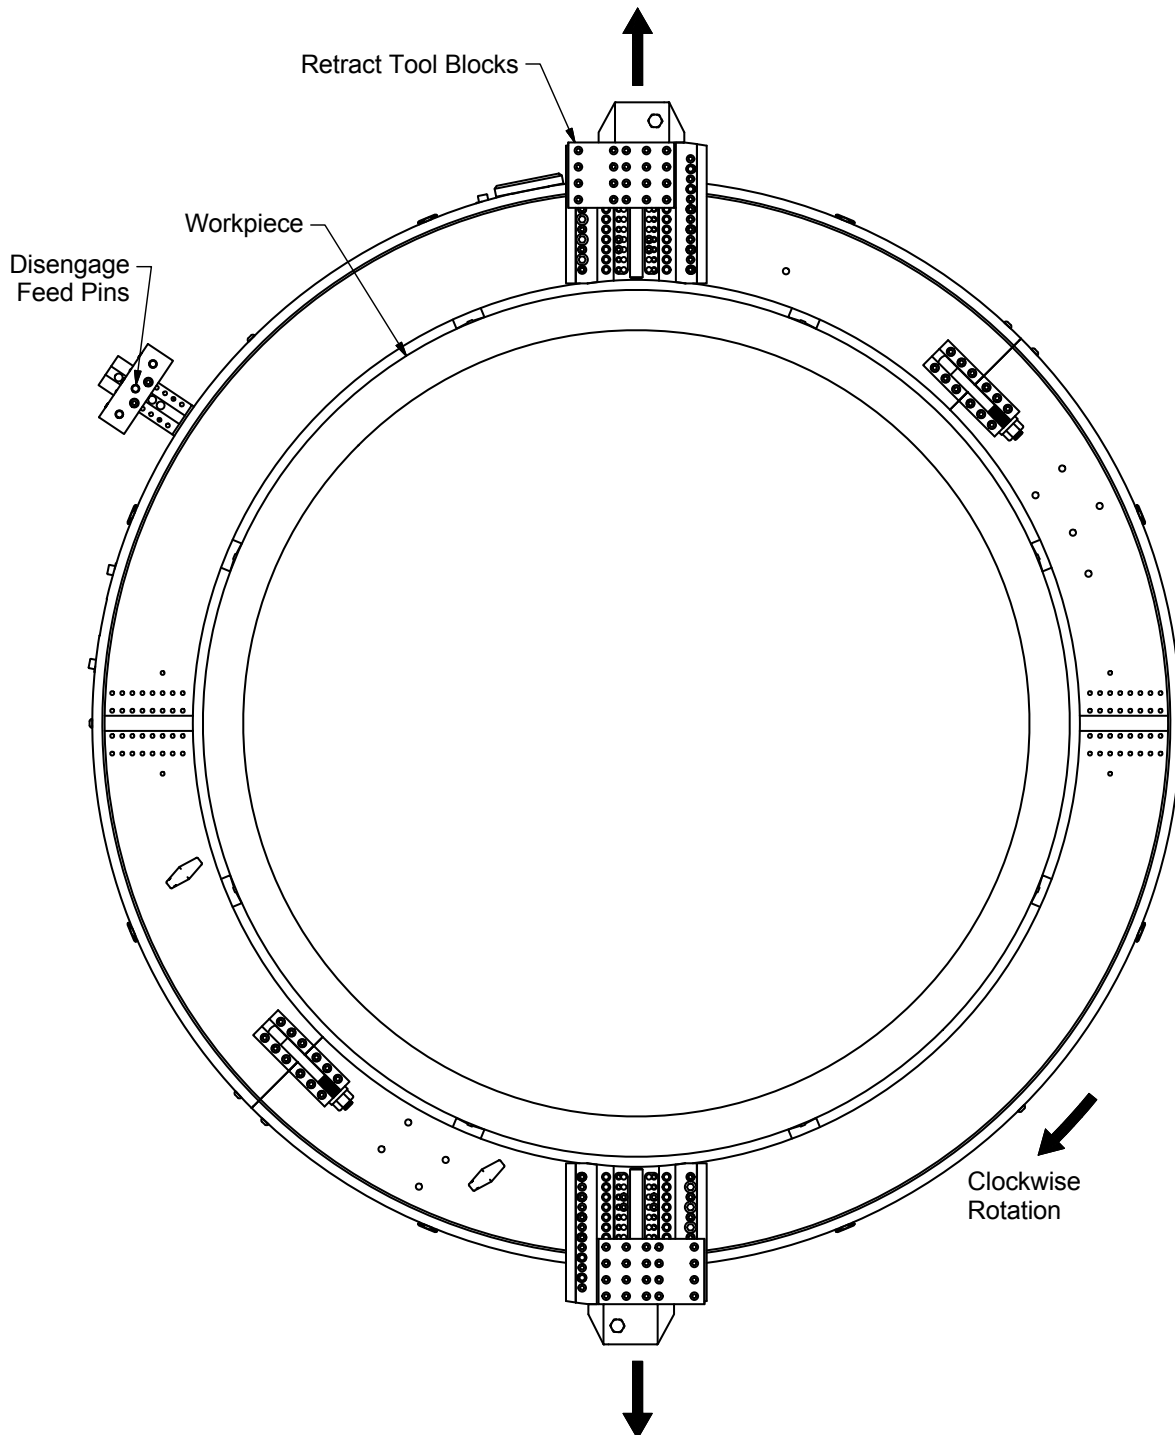

Figure 2-11 – Retract Tool Blocks, Disengage Feed Pin
11. Use a 5/8 hex socket to retract both tool blocks away from the workpiece. Disengage the feed pin. See Figure 2-11.